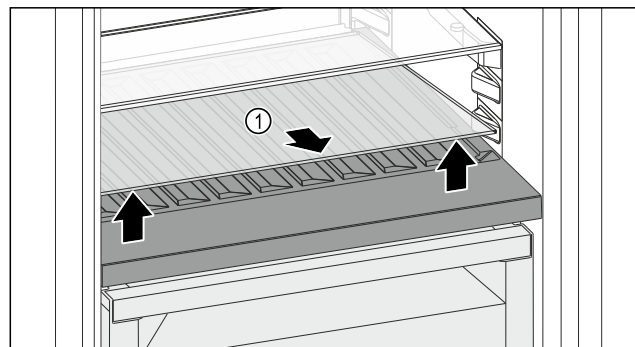

Fig. 161
- ▶ Lift the glass shelf Fig. 161 (1) at the front and remove.
- ▶ Store the glass shelf Fig. 161 (1) in a safe place outside the appliance.
- ▶ Insert the glass shelf (2) under the variable bottle rack.